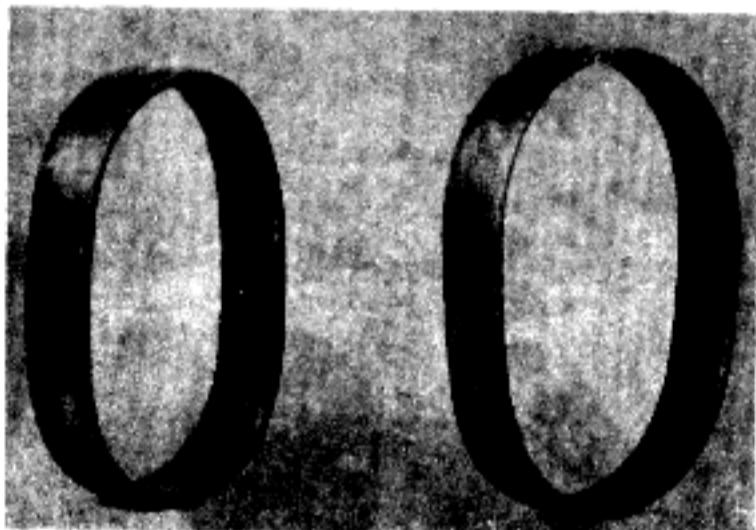
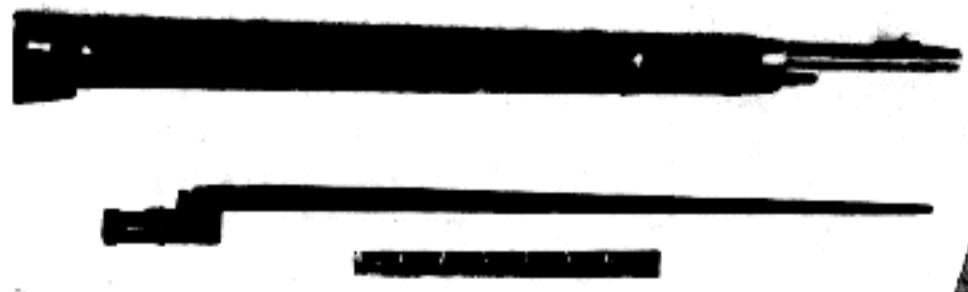

FIGURE 13. STOCK BANDS FOR DRAGOON RIFLE M1891.
FIGURE 14. LOCATION OF UPPER BAND ON DRAGOON RIFLE M1891.
- d. The Dragoon rifle M1891 has solid stock bands (fig. 13). The upper band is placed about 3-1/2 inches from the front end of the stock (fig. 14).